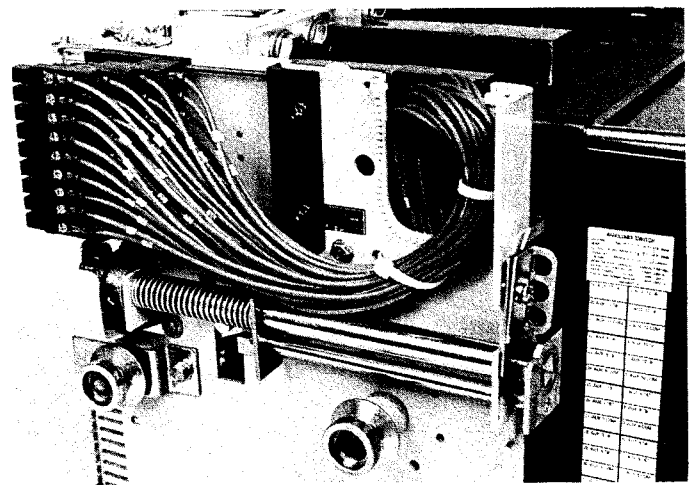
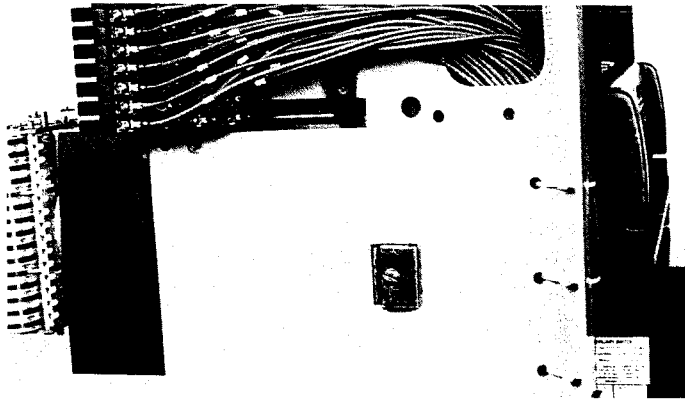

Figure 8. Routing of the secondary disconnect wires on a small-frame draw-out breaker and installing the secondary disconnect plug.
Figure 9. Routing of the secondary disconnect wires on a large-frame draw-out breaker and installing the secondary disconnect plug.
16. Slide the two mounting rods into the two holes in the secondary disconnect plug and then into the rear guide rail mounting block. Fasten the front guide rail mounting block to the side frame with two #8-32 flat-head screws, being sure to capture the two rails. Torque the screws to 20 in-lb. Route the secondary disconnect wires as shown in Figure 8 for small-frame (800–2000 A) breakers and in Figure 9 for large-frame (2500–4000 A) breakers.